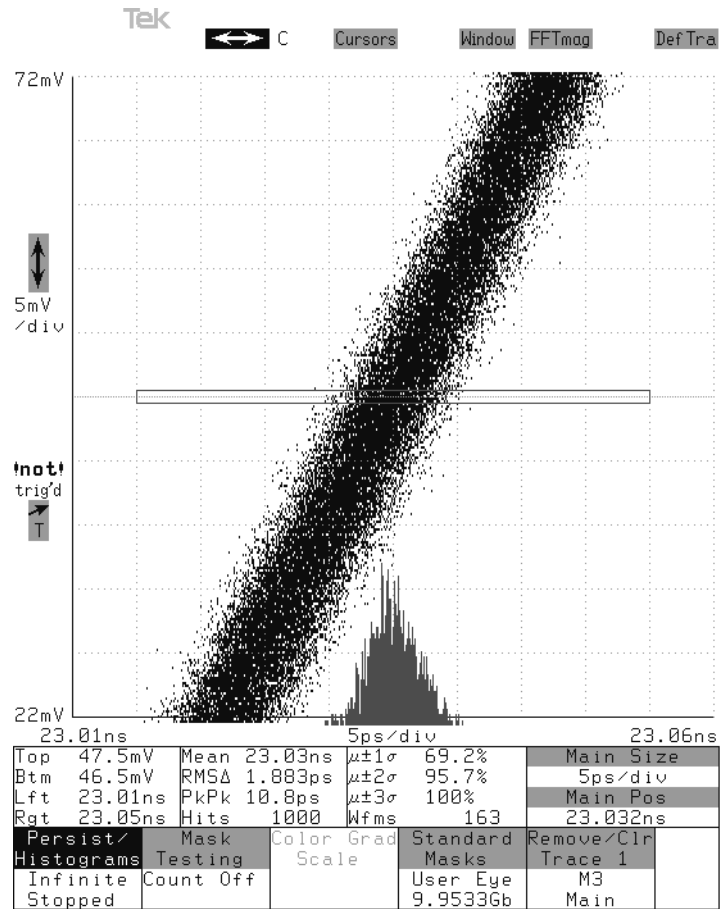

Figure 24: Random jitter histogram
- e. Define a horizontal histogram across the middle of the display with a height of 1 mV (see Figure 24). Set the display mode to STOP on N waveforms where N is set to 1000; touching the STOP ON N button in the DISPLAY MENU will begin an infinite persistence acquisition of the waveform which will stop acquiring after 1000 waveforms have been accumulated.